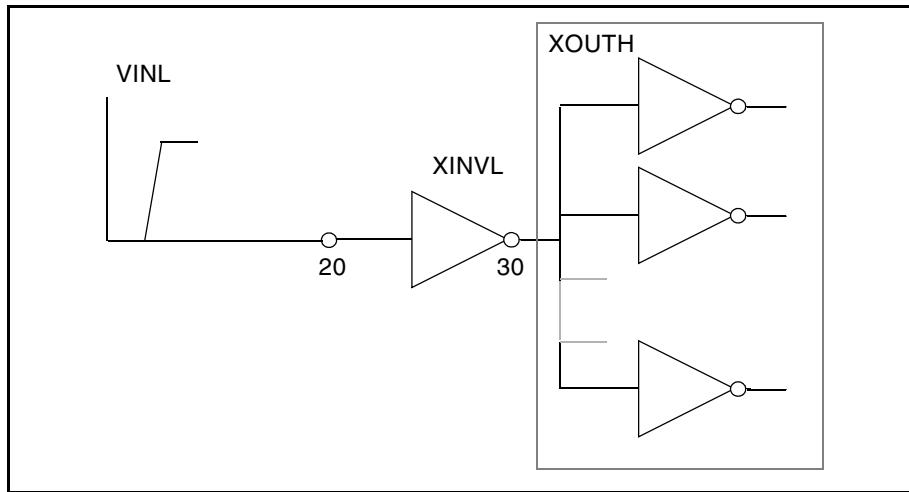

Figure 192 Cell Characterization Circuit 2
Figure 191 and Figure 192 are identical, except that their input signals are complementary.
- The circuit in Figure 192 calculates the fall time and the high-to-low propagation delay time.